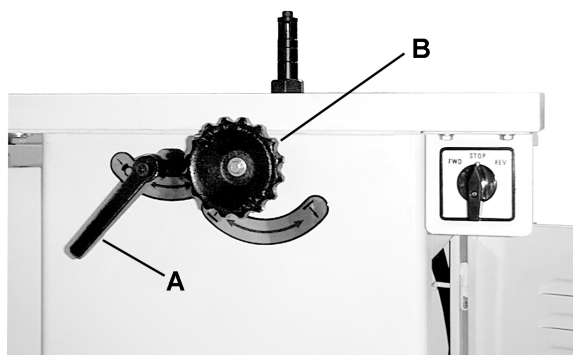

Figure 8
1. Loosen spindle lock handle counter clockwise (A, Fig. 8). The handle is spring-loaded; by pulling out you can adjust the positioning.
2. Raise or lower spindle to desired height by turning handwheel (B, Fig. 8).